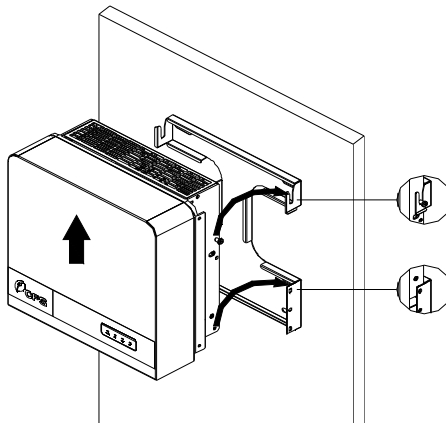

Figure 3-6 Mount the Main Enclosure on the Bracket
1. Hang the inverter onto the mounting bracket as shown in Figure 3-6;